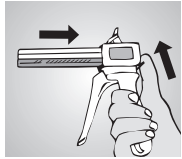
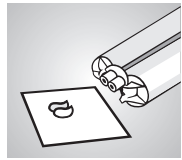
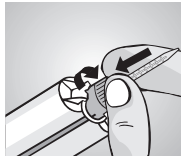

Fig. 2
Fig. 3
Fig. 4
Cartridge material is extruded using the Automix2-System dispensing gun (Fig. 2). After inserting cartridge into dispensing gun, unscrew cap and carefully extrude a small amount of material to insure proper flow from both ducts (Fig. 3). Attach mixing cannula by aligning notched side to cartridge and turning clockwise until fastened (Fig. 4). Dispenser now ready to mix silicone in any amount needed. Leave mixing cannula on cartridge after use. Use only blue **tempofit® semi** 10:1 blue mixing cannulas!
- To ensure a homogeneous mixing: Prior to insert the mixing cannula, **always** eject a small amount of material to ensure extruding **equal amounts** of base and catalyst **from both orifices** (Fig. 3).